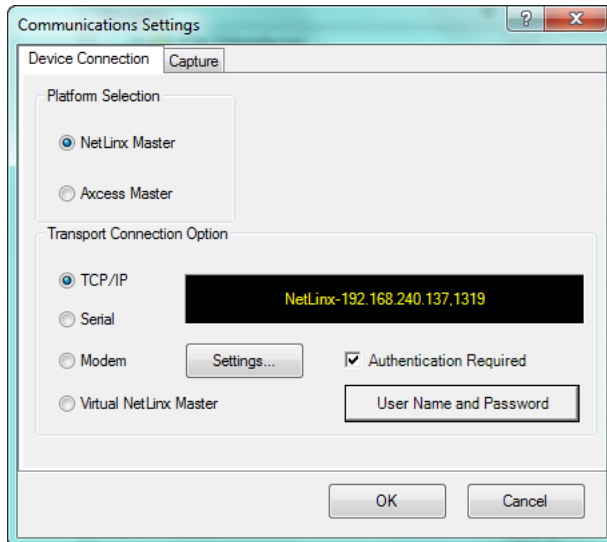

FIG. 44 Communications Settings Dialog
1. Select **Tools > Comm Settings...** to open the *Communications Settings* dialog (FIG. 44):